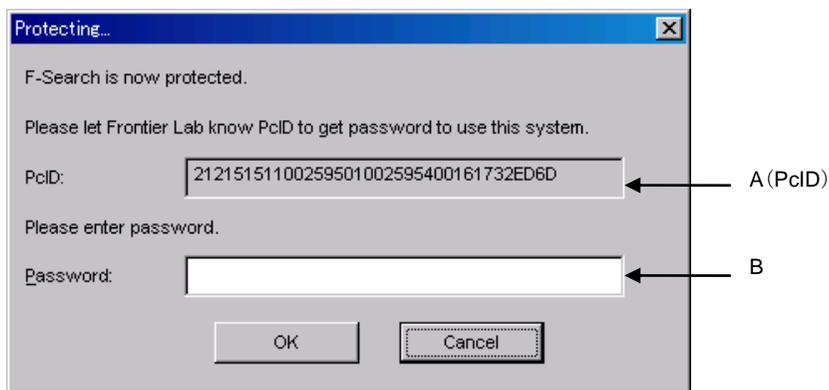
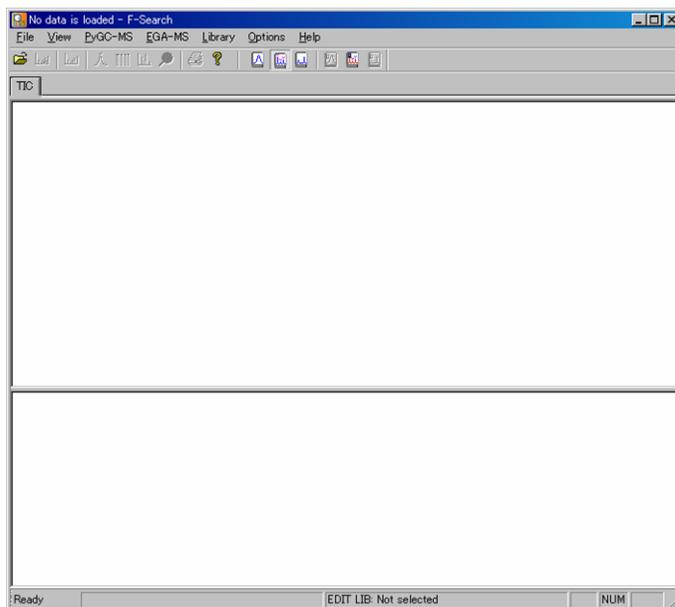

Fig. 3-4 Dialog box for entering password to remove software security
Fig. 3-5 F-Search startup screen after removing the software security
- (1) Select [Start] - [Program] - [F-Search]. A dialog box shown in Fig. 3-4 will be displayed. Enter the password to open the program (Fig. 3-4B).
- (2) The password is obtained on our website (<http://www.frontier-lab.com/>).
- (3) Please complete the user registration when obtaining a password. You must know the PciD (shown in A of Fig. 3-4) and the serial number of the F-Search software (printed on the CD-ROM) prior to opening our website, select [Support] - [Password] – [F-Search Password] to find [User registration/Create password] page. Follow the instructions displayed on the screen. The password will be issued and displayed on the screen. Also, it will automatically be sent to the registered e-mail address.
- (4) If you do not have access to our website, send the PciD and the serial number of the F-Search software (printed on the CD-ROM) to Frontier Laboratories either by email (cs@frontier-lab.com) or by FAX (+81-24-935-5102). Please include your contact name and address. In urgent cases, you can call our customer support department at +81-24-935-5100.
- (5) Enter the password into B of Fig. 3-4 and click [OK]. This will remove the protection and the window shown in Fig. 3.5 will be displayed.